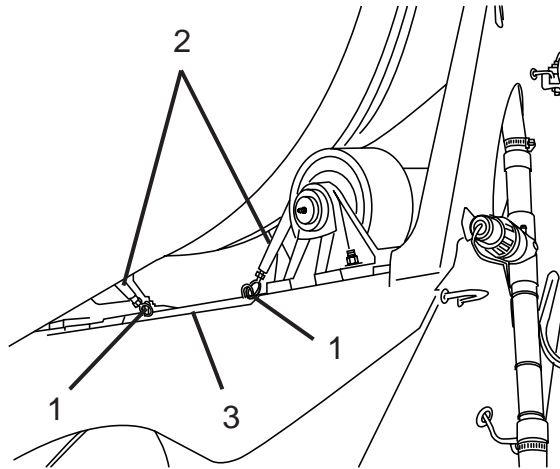

Figure 4
1. Loosen the turnbuckle jam nuts (Figure 4, Item 1).
2. Rotate the turnbuckles (Figure 4, Item 2) to retract the wedges from the drum roller track and rollers.
3. Remove the dual turnbuckle wedge assembly (Figure 4, Item 3) and any blocking from the rear pedestal.